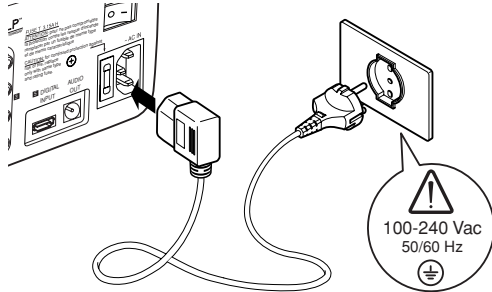

*Fig. 3*
- Connect the projector to a power supply with a nominal voltage within the following values: 100-240 Vac, 50/60 Hz, earthed (*Fig. 3*).